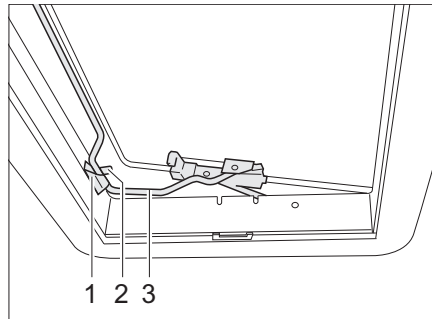

Fig. 49 Heki skylight in ventilation position 2
- Insert the bar (Fig. 49,3) into the holder (Fig. 49,1).
- Place the lever (Fig. 49,2) over the bar.